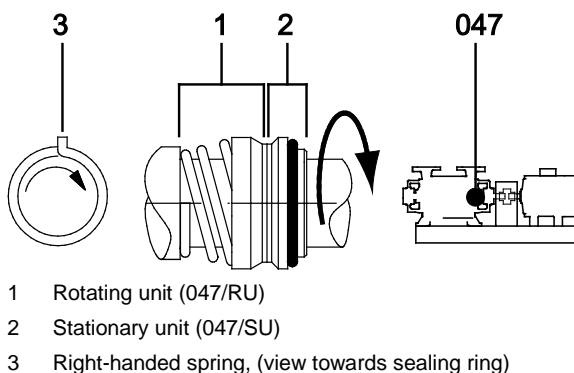

Fig. 7 Mechanical seal of clockwise rotating shaft (view towards pump)
① Cross-sectional drawing HY0282H3x- (→ page 26)
① Clockwise rotated version (view from the motor towards the pump)
- Push the rolling bearing (320) from the drive side onto the shaft (211).
- Move the locking ring (932) onto the shaft and force it into the groove.
- Force the rolling bearing into the discharge casing (107) (use a force-fitting mandrel).
- Slide the bearing cover (360) onto the shaft, centre it in the discharge casing and fasten it with slotted screws (900).
① The spring of mechanical seal 047 must always be right-handed while that of mechanical seal 047.1 must be left-handed (→ refer to Fig.7 and 8).